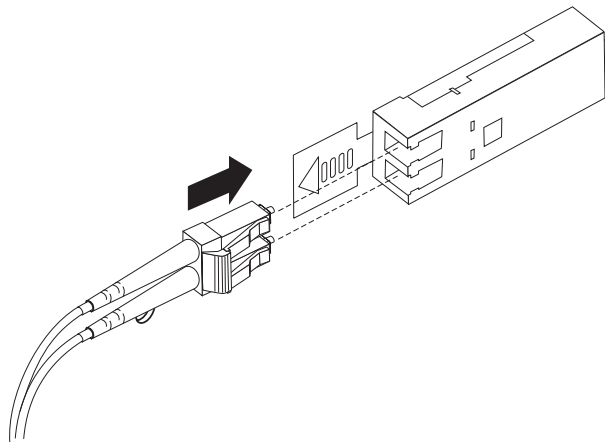

Figure 29. Inserting an LC-LC Fibre Channel cable into an SFP module
4. Carefully insert the open end of the LC-LC cable into an SFP module that is installed in the storage subsystem. The cable connector is keyed for correct installation. Holding the connector, push in the cable until it clicks into place, as shown in Figure 29.